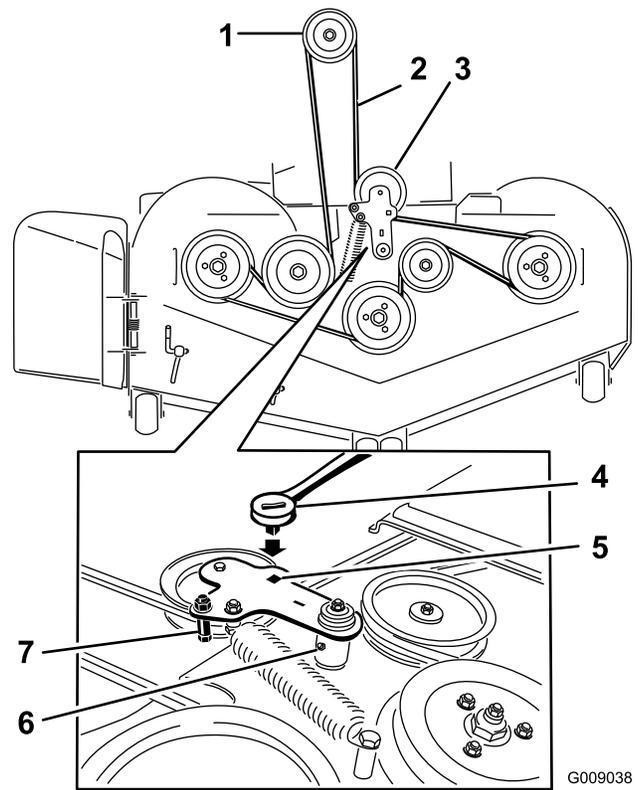

Figure 95
8. Use a ratchet in the square hole in the idler arm to remove tension on the idler spring (Figure 95).
10. Install the new belt around the mower pulleys and the clutch pulley under the engine (Figure 95).
11. Rotate and ensure the belt-guide tab hits against the pivot hub (Figure 95).
12. Using the ratchet in the square hole, install the belt around the spring-loaded idler pulley (Figure 95). Seat the spring ends in the anchor grooves.